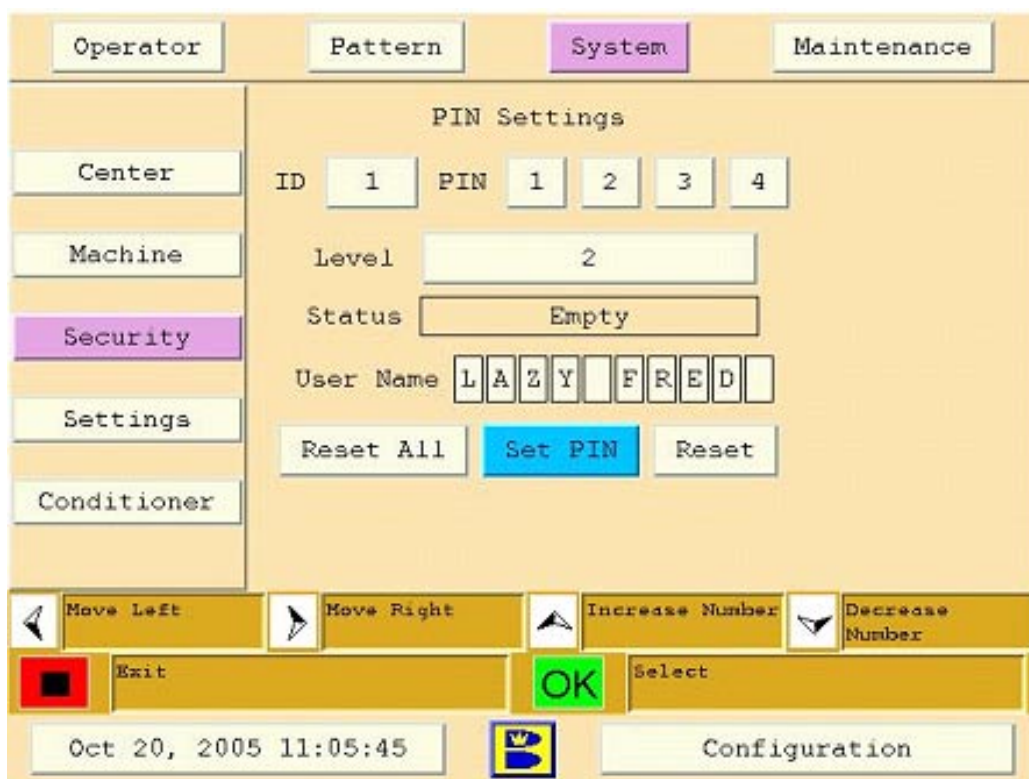

Figure 4-18. System Security
1. Go to the System menu. Refer to Figure 4-18.